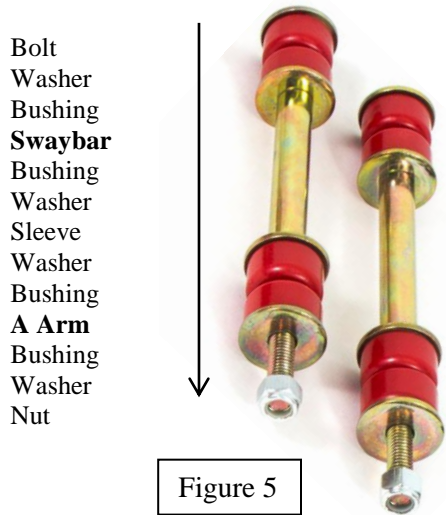

Figure 5
14. Loosely install sway bar endlinks. Figure 5 shows proper order of assembly.